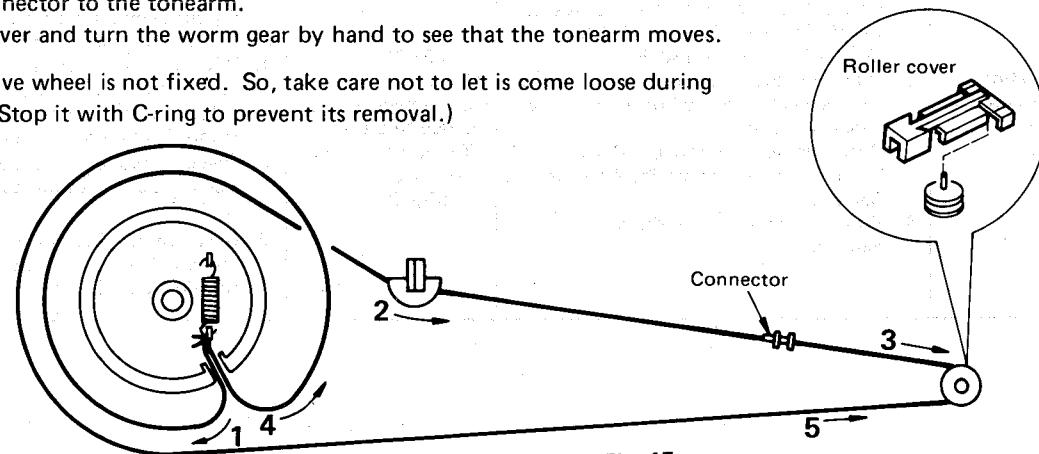

Fig. 15
2. Remove the roller cover. (Fig. 15)
3. Set the rope in the order of 1 ~ 5 (Fig. 15)